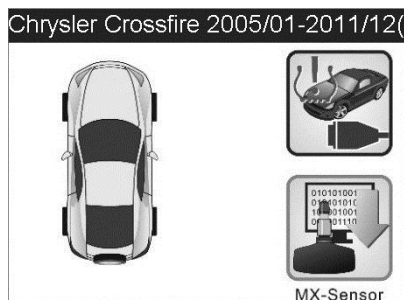
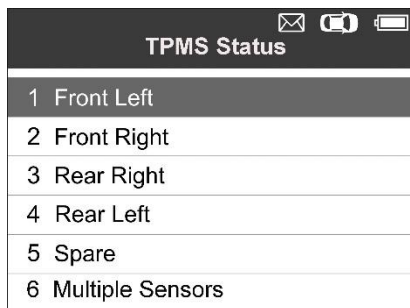

Figure 5-1 Sample MX-Sensor Screen
Figure 5-2 Sample TPMS Status Screen
Press **MX-Sensor** button on the lower right corner of the function screen (Figure 5-1), a **TPMS Status** screen will show up (Figure 5-2).
1. Use the **UP/DOWN** scroll button and **LEFT/RIGHT** scroll button to select **MX-Sensor** icon on the lower right corner of the function screen (*Figure 5-1*).
2. Use the **UP/DOWN** scroll button to select the wheel which needs to be programmed (*Figure 5-2*).